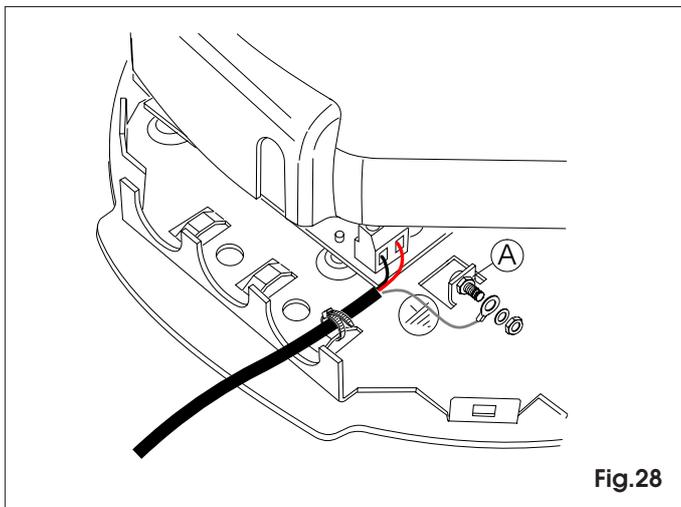

Fig.28
9.1 Connect the power cable, as shown in figure 28, securing it with a clamp in the indicated area.
9.2 Fit the screw in the appropriate seat and tighten with washer and nut (fig.28 ref.A).